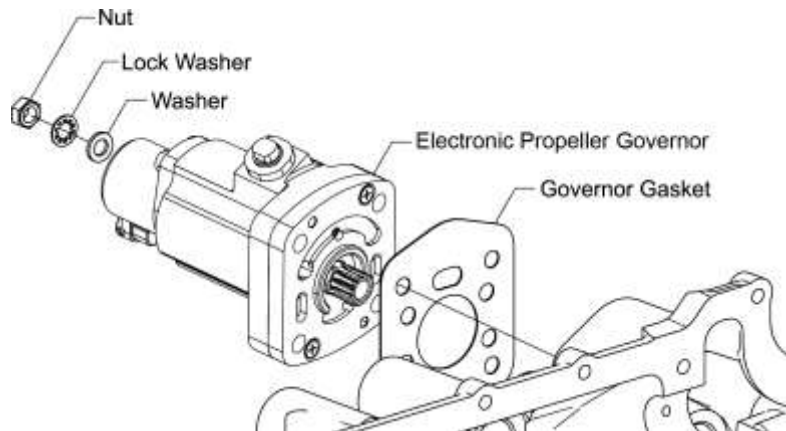

Figure 111
- B. Remove the four nuts, lock washers, and washers (Figure 111) from the electronic propeller governor.
- C. Install the electronic propeller governor (Figure 111) with a new governor gasket on the studs in the crankcase.